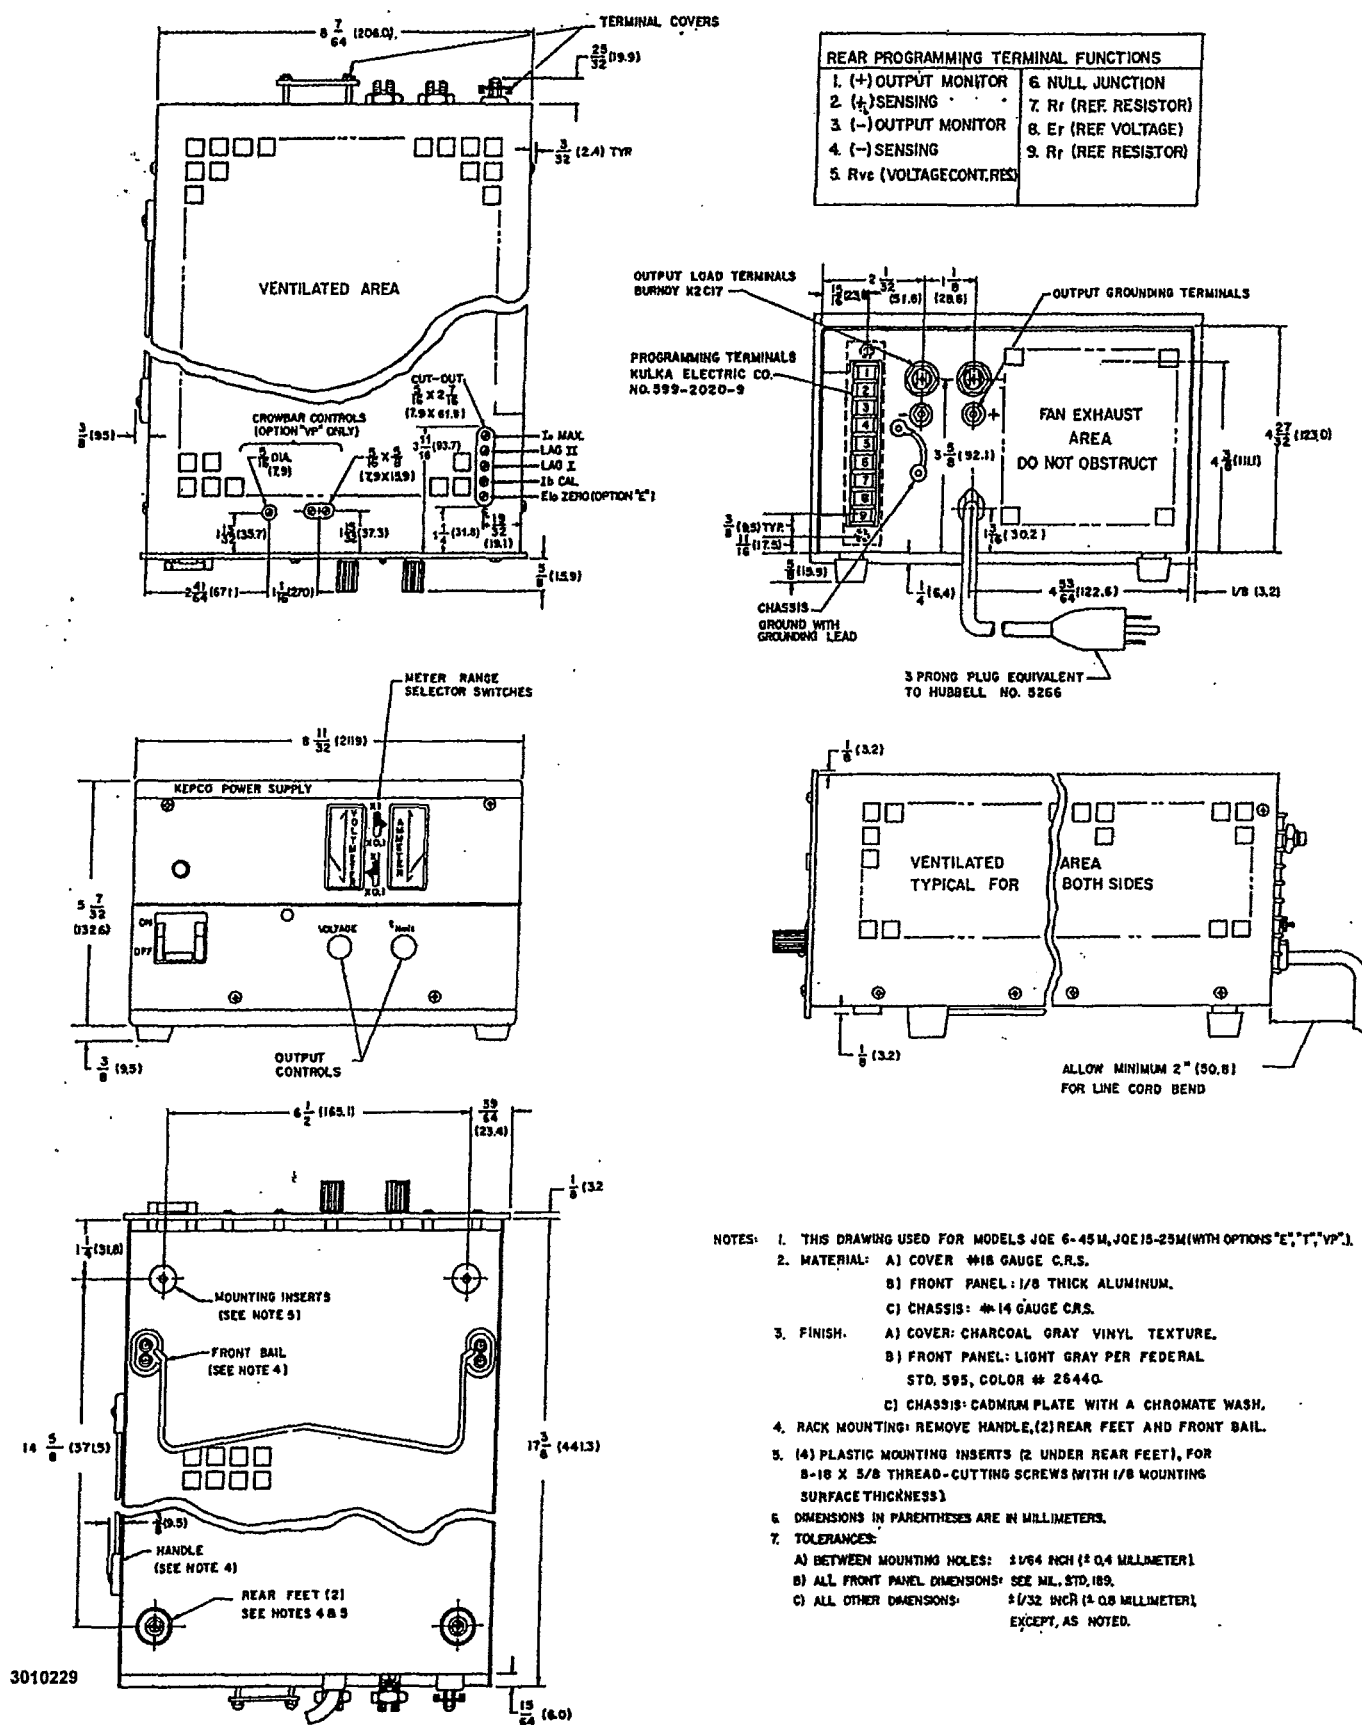

FIGURE 1-3 MECHANICAL OUTLINE DRAWING
a) DIMENSIONS AND FINISH: Please refer to the "Mechanical Outline Drawing," FIG. 1-3.
## 2-10 INSTALLATION (Refer to FIG. 1-3 "Mechanical Outline Drawing")